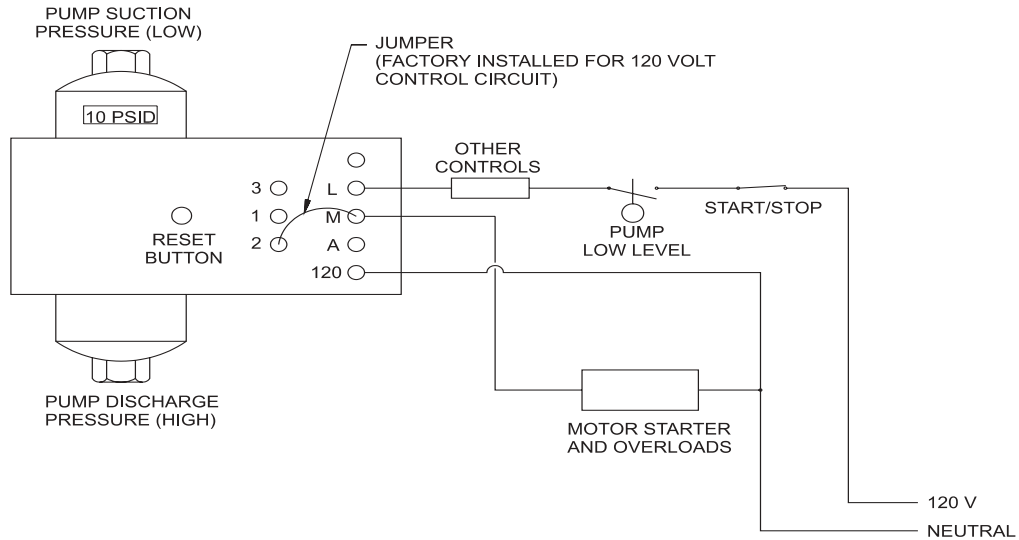

Figure 5
5. Check differential pressurestat operation. Cavitate the pump by gradually closing the pump inlet valve with the pump running. Cavitating the pump in this manner will not harm the pump. This will starve the pump for liquid. Discharge pressure of pump should fall to nearly inlet pressure. The differential pressurestat should shut the pump off after 30 seconds. If not, stop the pump at once and the check wiring of differential pressurestat (Figure 5 and 6). Repeat the procedure to ensure that the differential pressurestat stops the pump after about 30 seconds of cavitation.